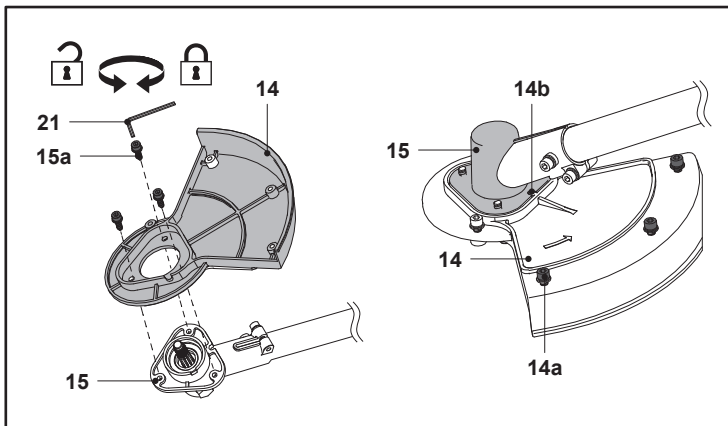

Fig. 4
4. Align the cutter guard (14) with the gear head (15) (Fig. 4).
5. Make sure the guide pin (14b) matches with the slot in the gear head (15).
6. Secure the guard with the three bolts (15a) by using the multi-tool (21).